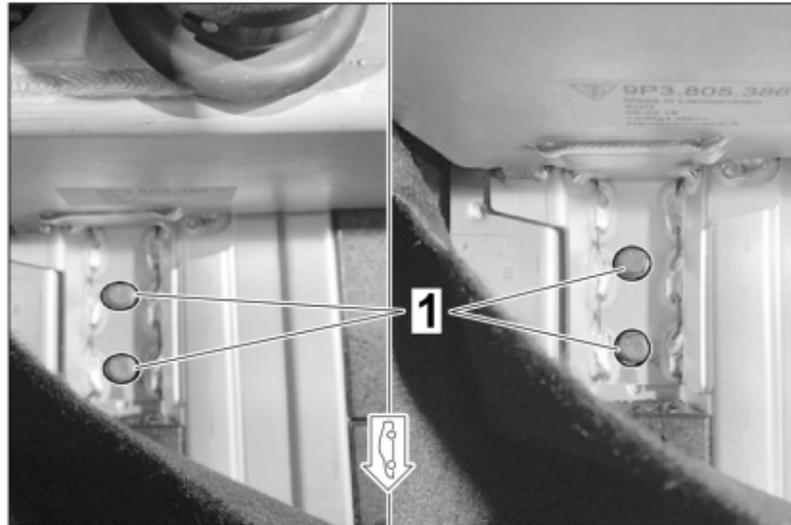

Figure 82
- 10.4.4 Correct the position of both water tanks: Readjust water tank (standard) in floorplan area (⇒ *Figure 82*).
Loosen screw M6 (4 pcs ⇒ Figure 82 -1-).
Tighten screw (4 pcs ⇒ Figure 82 -1-): **Tightening torque 8 Nm (5.9 ftlb.)**. (see also ⇒ Workshop Manual '215719 Removing and installing water spray system reservoir')